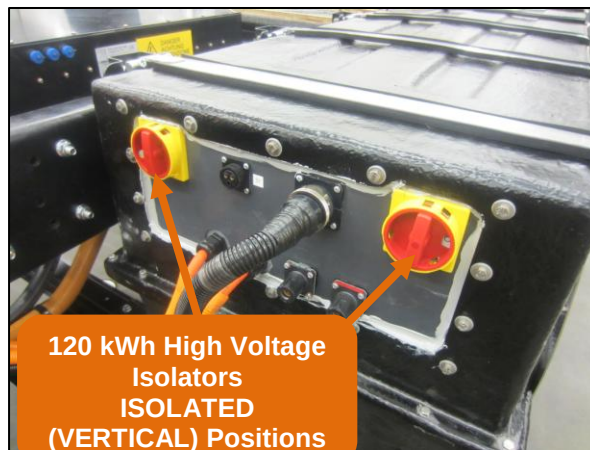

Figure 2.4
- b. There are 2 High Voltage Isolator Switches on each of the battery pods for the 120kWh system (Figure 2.4).